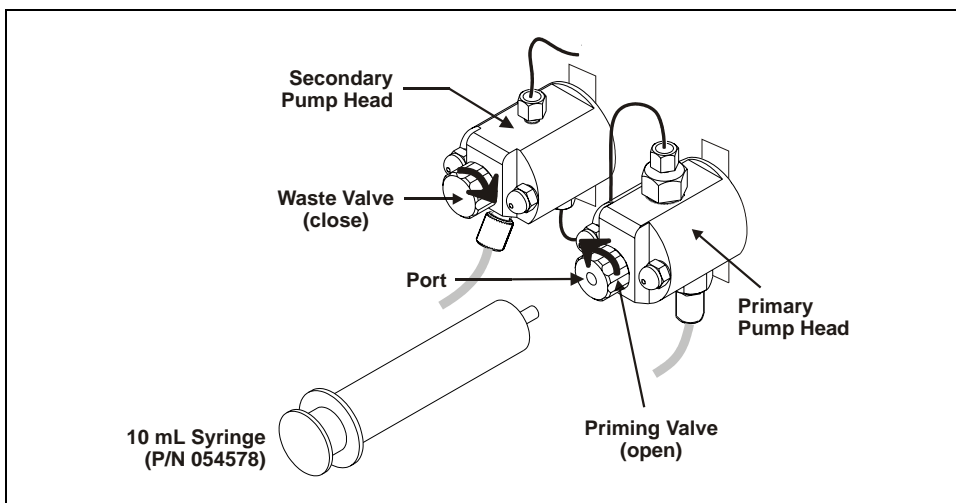

Figure 36. Priming the Eluent Lines
2. Connect a 10 mL syringe (P/N 054578) to the port in the priming valve on the primary pump head (see Figure 36).